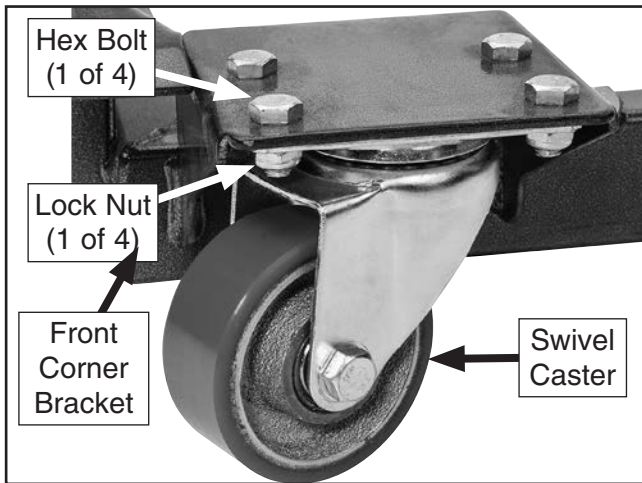

Figure 4. Swivel caster attached to front corner bracket.
1. Attach swivel caster to each front corner bracket using (4) M8-1.25 x 16 hex bolts and (4) M8-1.25 lock nuts (see **Figure 4**).